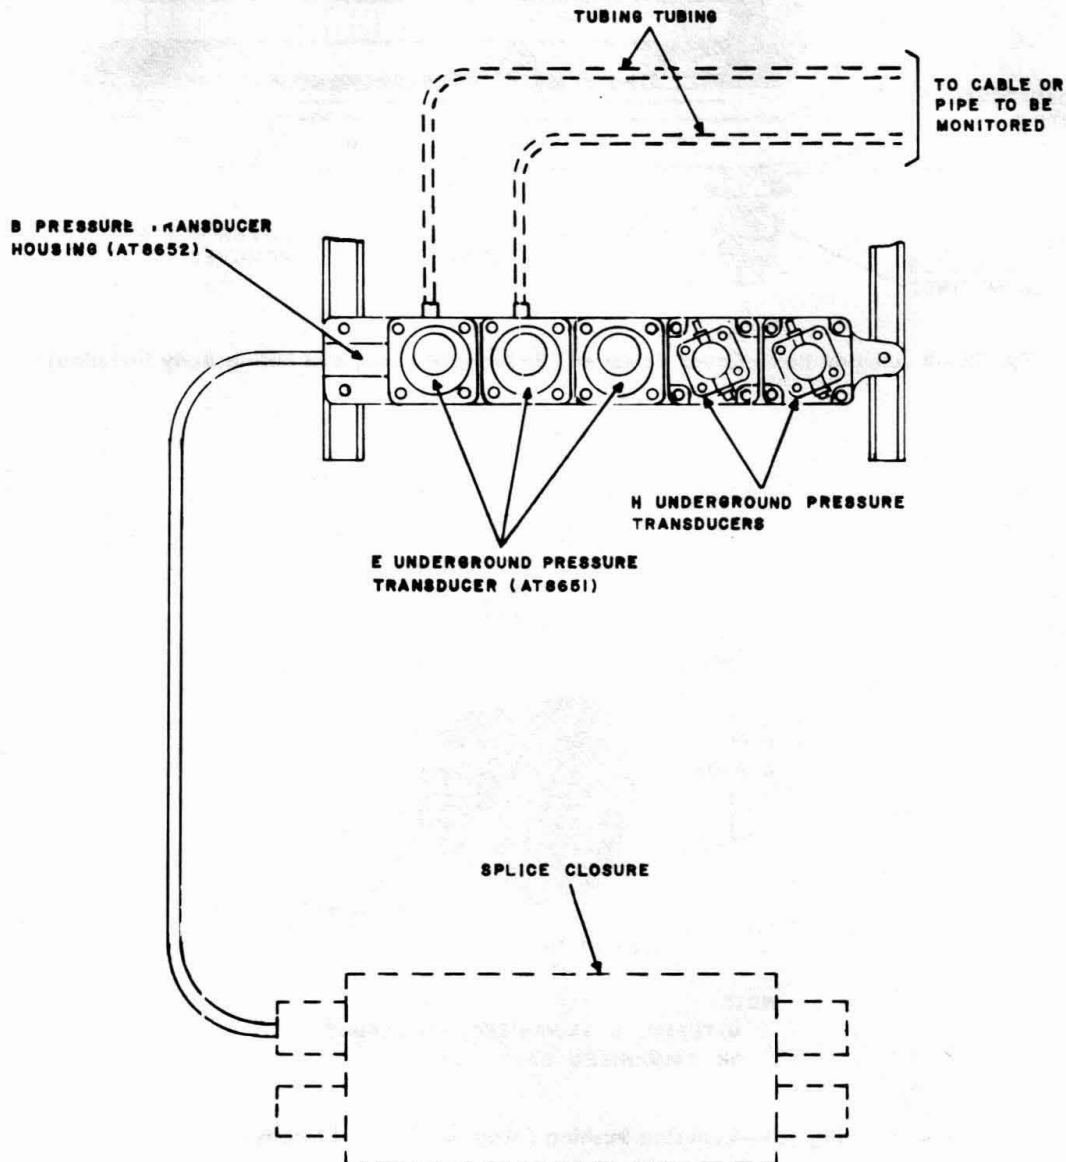
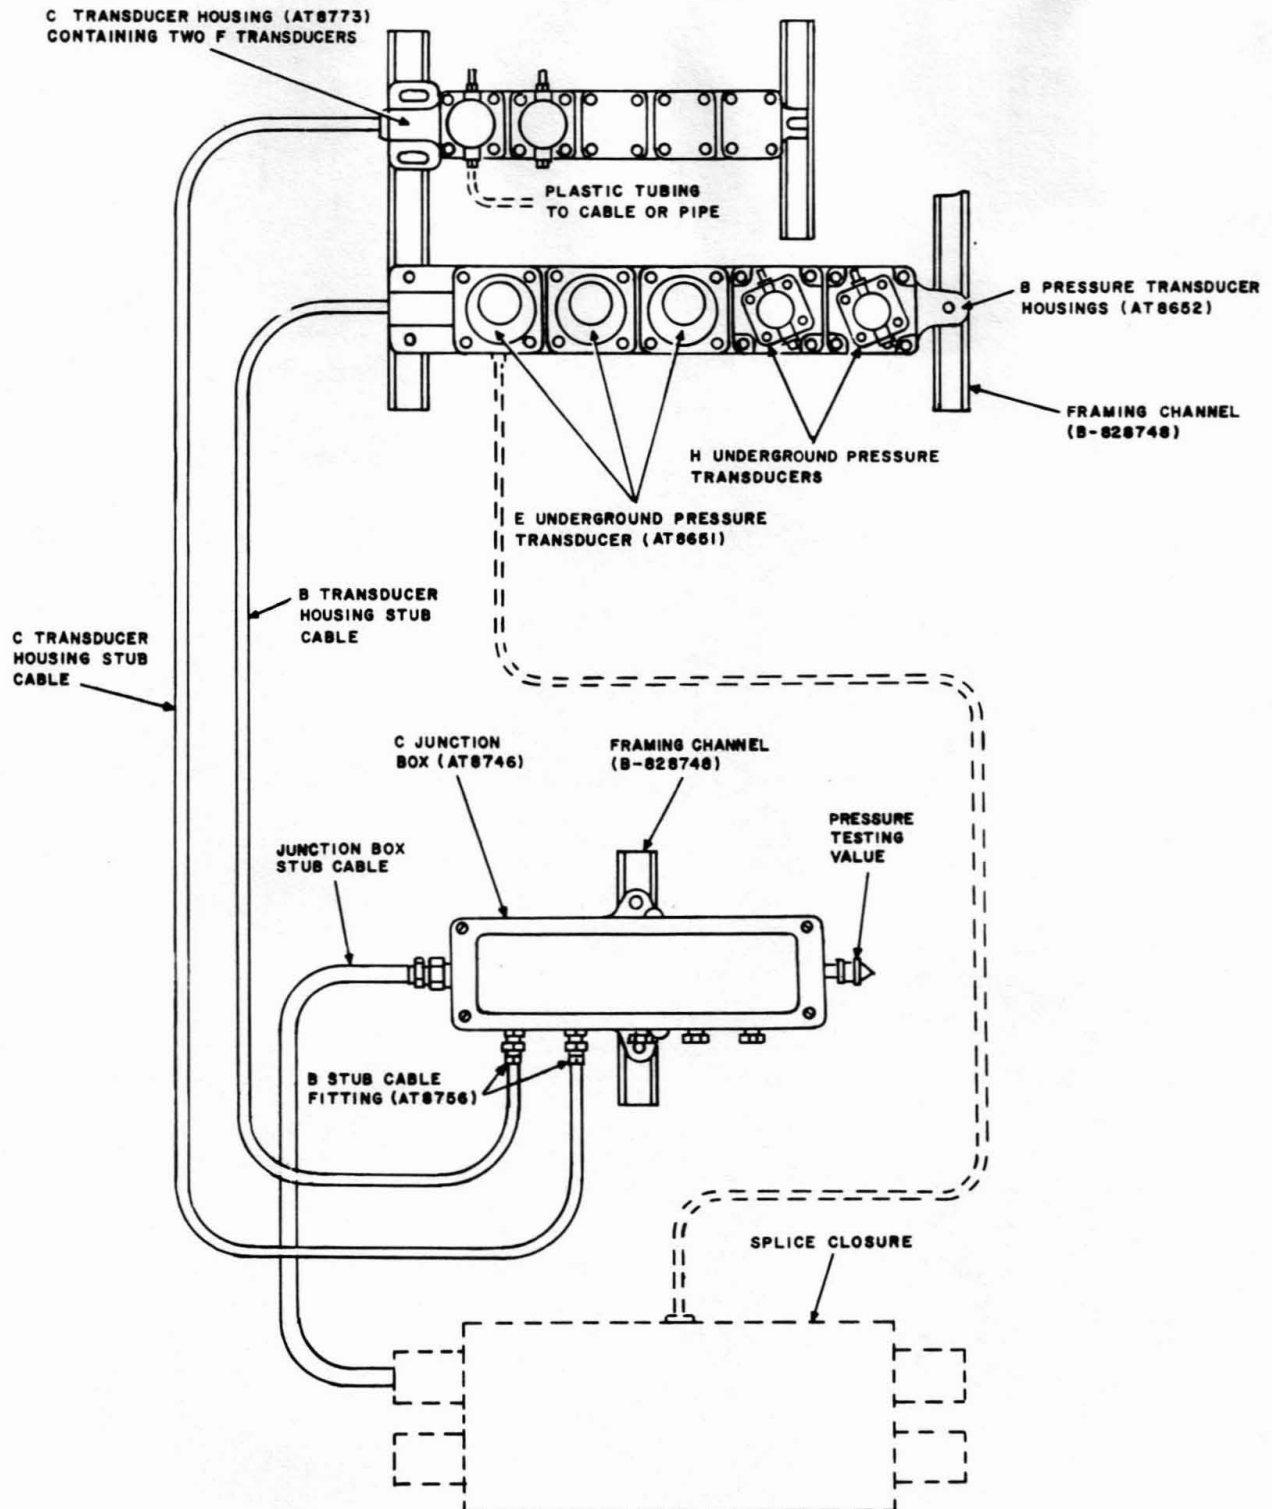

Fig. 24—E Transducers Connected Directly to the Assigned Cable Pairs
Fig. 25—Example of E Pressure Transducer Installation (C Transducer Housing and C Junction Box Added)
11.01 To add a C transducer housing and C junction box to the existing system illustrated in Fig. 24, proceed as follows:
11.03 The modified version, of the E Transducer System shown in Fig. 24, is illustrated in Fig. 25.